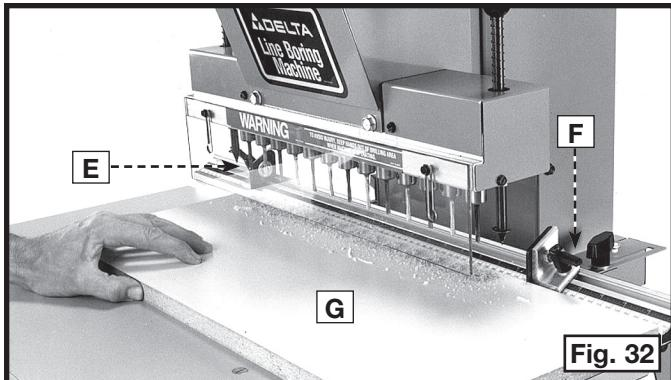

Fig. 32
1. Set the left stop 1" (25.4 mm) to the left of the last drill bit on the left side of the machine (E) Fig. 32. Set the right stop 1" (25.4 mm) to the right of the last drill bit on the right of the machine (F) Fig. 32. Position the workpiece (G) against the fence with the left edge of the workpiece against the left stop (E). Turn the machine "ON", lower the handle, and bore the holes.